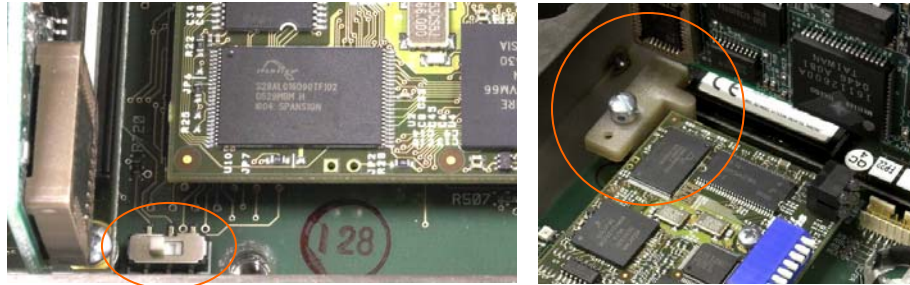

Figure 2-92: Metrology Security Switch (left) and Cover Installed (right)
2. Install the Security Cover to prevent access to S1, the Metrology Security Switch indicated in Figure 2-92, Main PCB Switches.